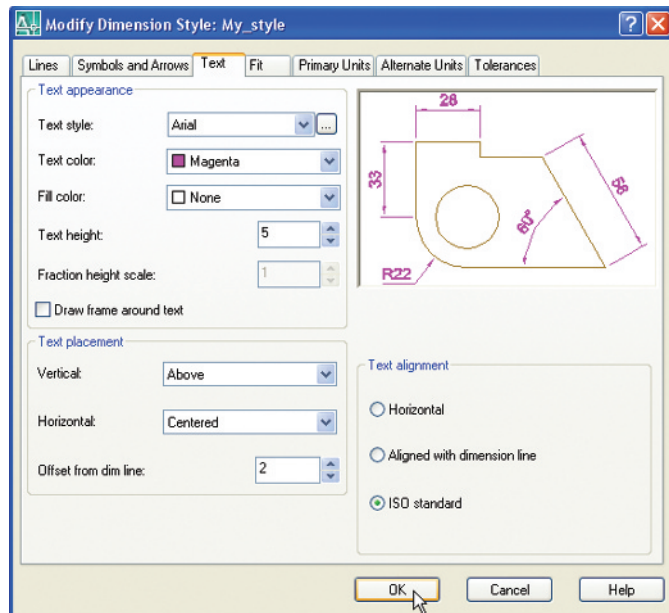

Fig. 4.12 Setting text style and height in the **Text** sub-dialog
5. In the **Modify Dimension Style** sub-dialog which appears (Fig. 4.12), *click* the **Text** tab at the top of the dialog. Then *click* the arrow to the